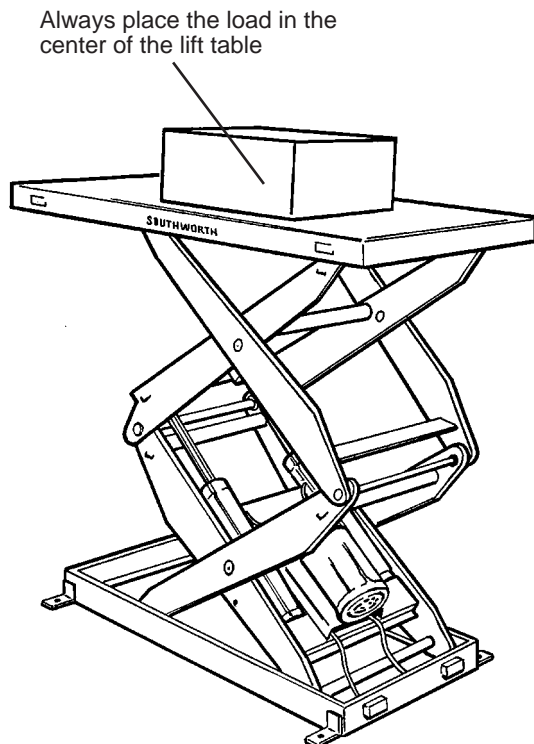

Fig. 4 – Center the Load
- Place the load in the center of the lift table, as shown in Fig. 4.